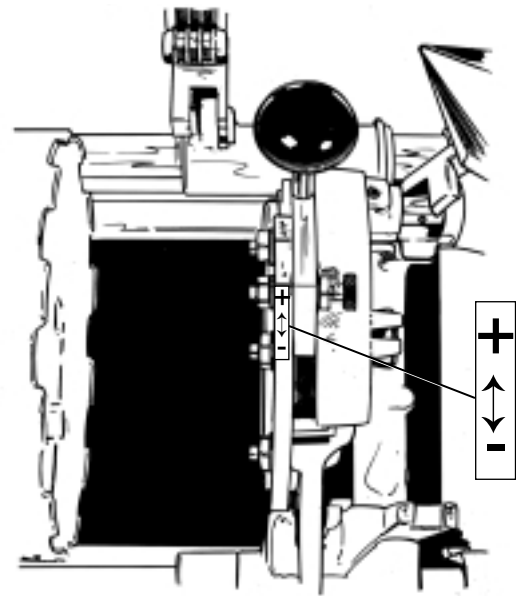

Figure 10
1. To correct deep threads; loosen depth adjustment nut and move slightly toward the (+) marking on die head size bar. Tighten adjustment nut. (*Figure 10*)
2. To correct shallow threads; loosen depth adjustment nut and move slightly toward the (-) marking on die head size bar. Tighten adjustment nut. (*Figure 10*)